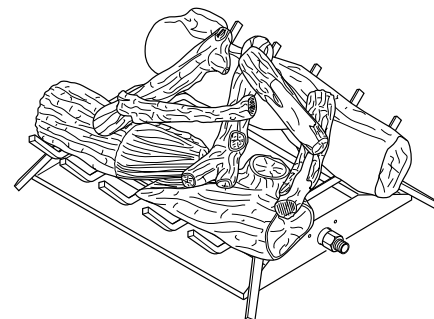

Figure 19 - Placement of Top Logs
5. Place the smaller top logs onto the bottom logs (see Figure 19). Leave as much open space between logs as possible to minimize flame impingement and sooting. **Note:** Logs may chip if they are handled roughly or if hit together while being placed.